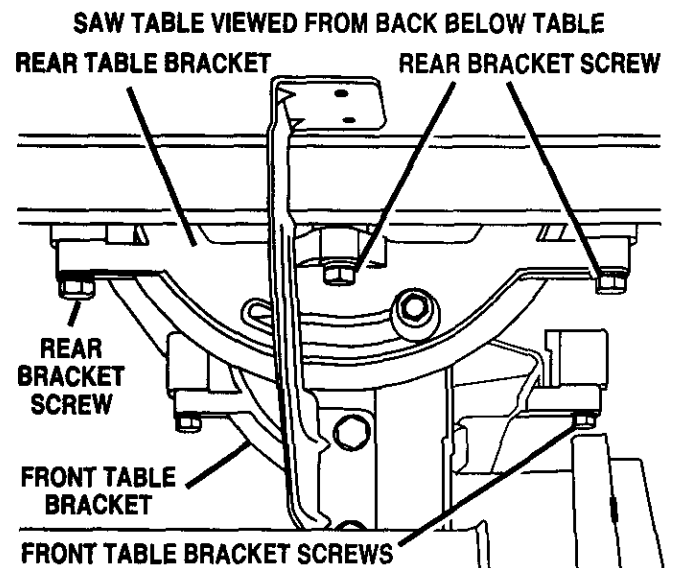

Fig. 49
- From the back of the saw, loosen the three screws on the rear table bracket with a 12 mm wrench. See Figure 49.